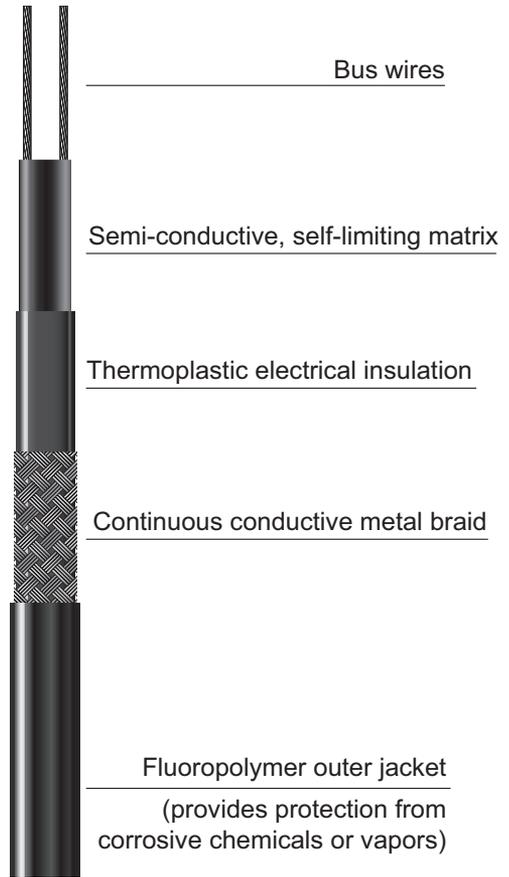

Figure 1-3: Self-regulating heating cable
2. Heating cable — The self-regulating heating cable has a nominal output of 17 W/m (watts per meter) or 5 W/ft. (watts per feet) and supply voltage of 240 VAC (see **Figure 1-3** on **page 4**).
5. Polyethylene (PE) casing — The PE casings are made of corrugated high-density polyethylene (HDPE). Corrugation makes the casing stiff, but flexible.